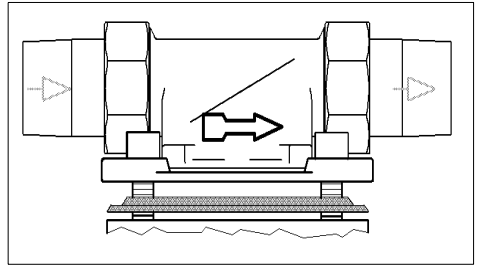

Fig. 5: Built-in rotary flange
**The built-in rotary flange must be installed in the direction of flow. This is marked by a cast in arrow (see Fig. 5).**